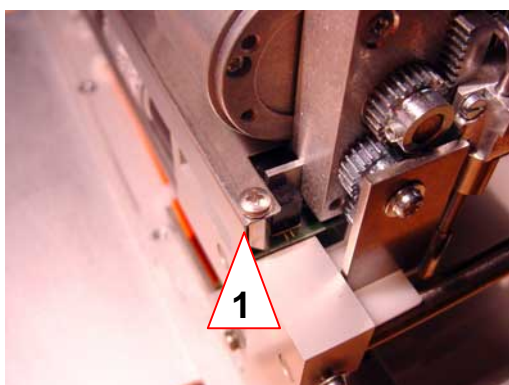

Fig. 4-12 Cable guide mounting screw
5. Remove the screw of the cable guide and remove the cable guide backwards (see Fig. 4-12, 1).